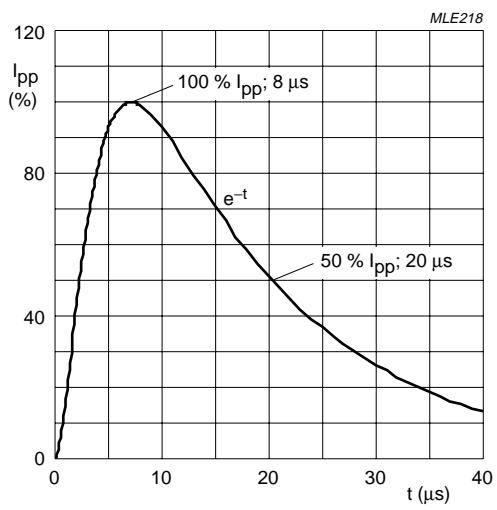

Fig.2 8/20 μ s pulse waveform according to
1. Non-repetitive current pulse 8/20 μ s exponentially decaying waveform; see Fig.2.
1. Non-repetitive current pulse 8/20 μs exponentially decaying waveform; see Fig.2.